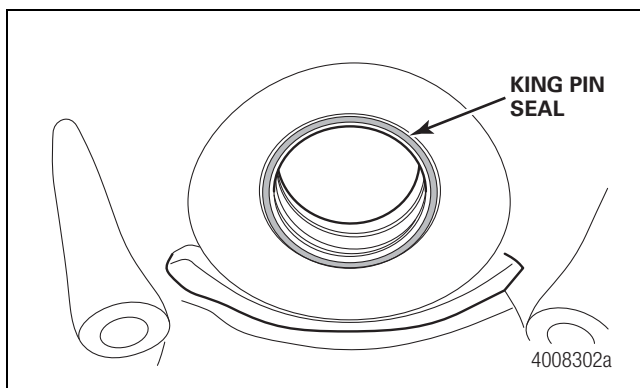

Figure 4.4
9. Remove and discard the king pin seals. Figure 4.4.